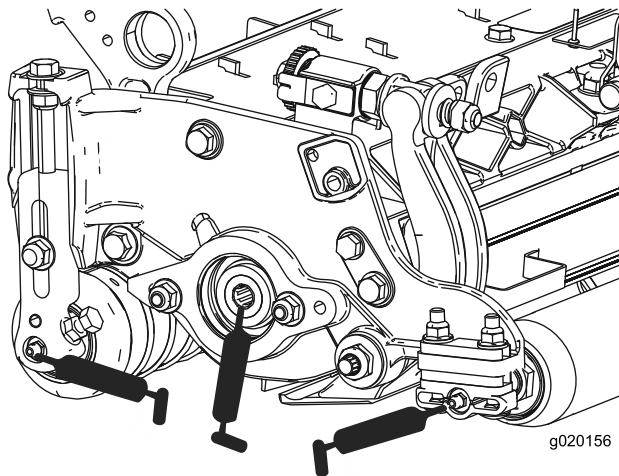

Figure 24
The lubrication points are the front roller (2) and the rear roller (2). Also, after every 250 hours or whenever the reel motor is removed from the cutting unit, apply grease to the spline insert (Figure 24).